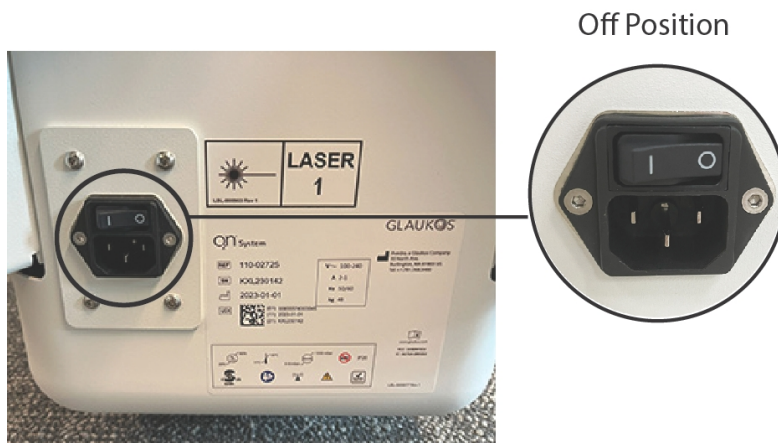

Figure 3-28. Mains Power “Off” Position
- Turn the mains power switch on the UV-A base to the “Off” position as shown in Figure 3-28.